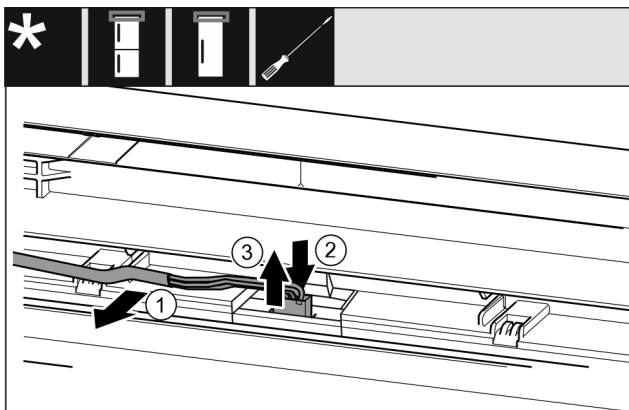

Fig. 24 Fridge/freezer combinations / freezers / refrigerators\*
- ▶ Release the cable Fig. 24 (1) from the guide in the door carefully.\*
- ▶ Push the tab Fig. 24 (2) behind the plug backwards.\*
- ▶ Pull the plug Fig. 24 (3) out upwards carefully.\*